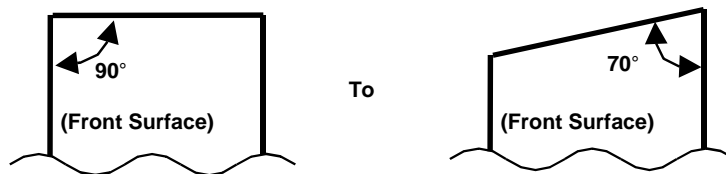

Figure 9-3 Paper Edge (Automatic Load)
- ③ Insert the edge of the paper straight into the paper insert position and feed the paper until it emerges from the paper cutter.
- ④ Pull on the edge of the paper and check to make sure it is properly set, then put the head down.
(2) Loading the paper automatically:
- ① Put the printer to the head down state.
- ② Cut the edge of paper in the manner as shown in **Figure 9-3**.
Note: 1) The paper sensor is located on the same side as the head-up lever. If the paper is cut in a direction opposite to that as shown in **Figure 9-3**, then it will not detect the paper.